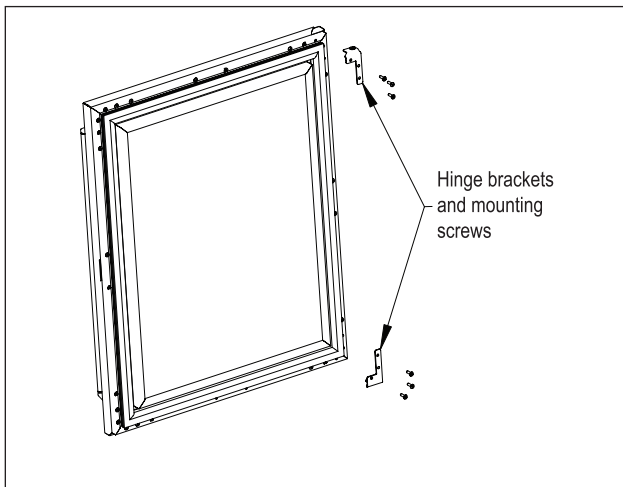

Figure 6: Door Brackets
- Remove the top and bottom hinge brackets from the door (Figure 6). Retain the screws for later use.